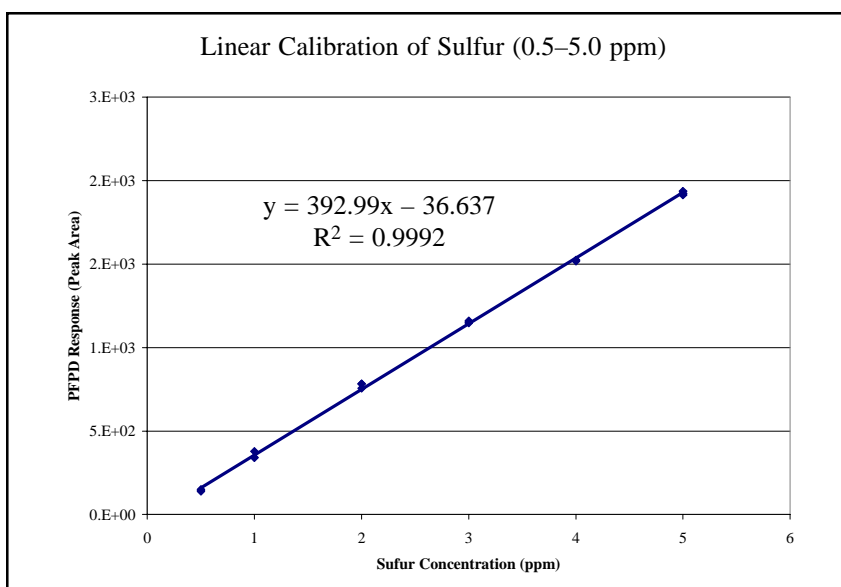

Figure 3. Calibration Curve Plotting Peak Area as a Function of Sulfur Concentration
3. Prepare a calibration curve plotting PFPD response (peak area) as a function of the sulfur concentration, and determine the correlation coefficient (R^2) and equation for the line. Be sure to use the concentration of sulfur in the solution and not the concentration of the compound as illustrated in Figure 3.